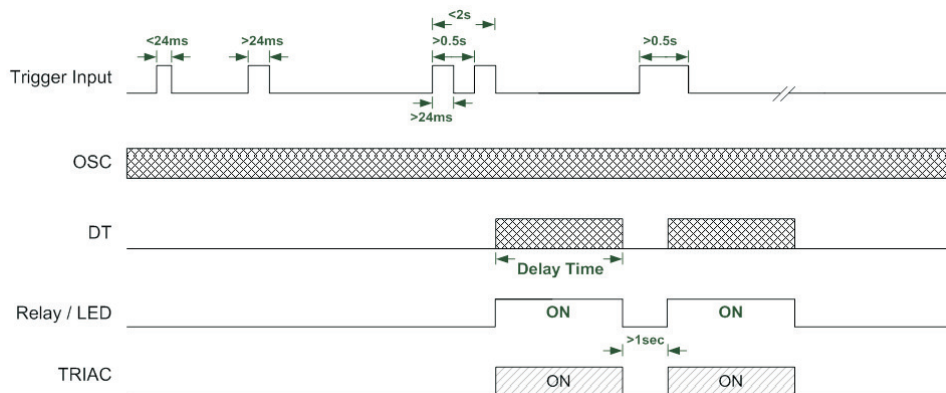

Fig.11 Trigger Timing
The effective input trigger signal width should be $\geq 24\text{ms}$. The output is valid either with (1) trigger signal width ≥ 0.5 seconds or (2) more than 2 effective trigger inputs within 2 seconds (separation of 2 triggers $\geq 0.5\text{s}$). The separation time between two TRIAC(RELAY) turn-on time must be more than 1 sec. The trigger timing is shown in Fig.11.